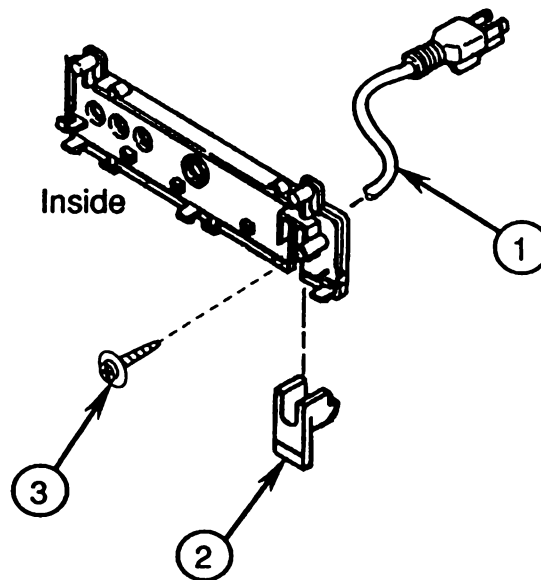

FIGURE 44
- b) Fit the rear panel over the AC power cord (Figure 44, #1).
- c) Slide the matching small plastic holding piece (Figure 44, #2) under the cord until it fits securely under the power cord.
- d) Replace the screw that holds the power cord in place (Figure 44, #3).